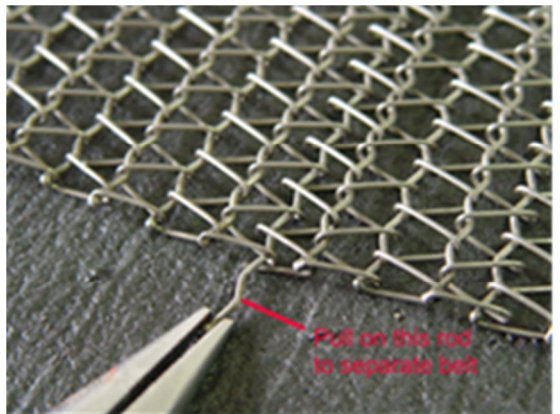

Figure 7-22 Remove belt wire
2. Remove the wire by pulling straight through the belt (Figure 7-22) and retain for later splicing.